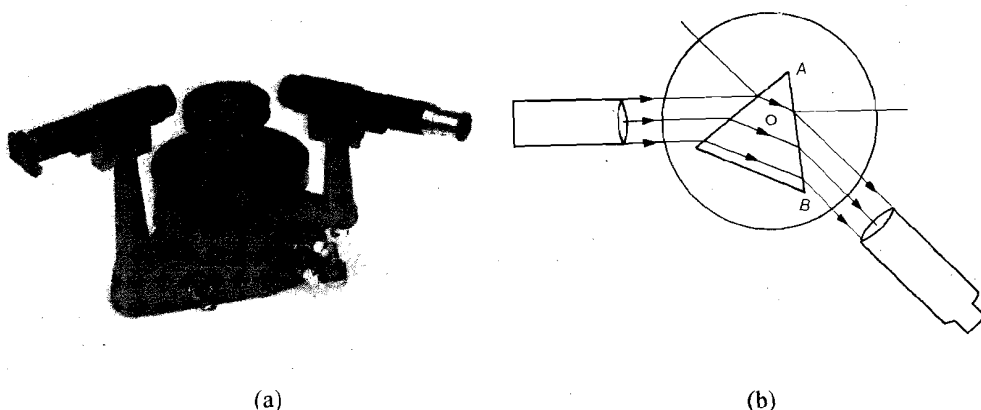

Fig.5.1: Observing spectrum
- Mount the prism on the prism table such that its centre coincides with the main axis of the spectrometer and its side AB is normal to the collimator, as shown in Fig.5.1.